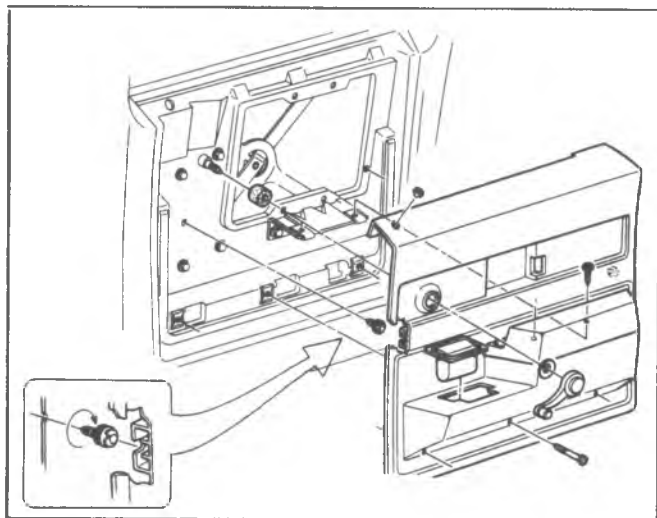

Fig. 38—Side Rear Door Trim Pad
3. Remove screws retaining door trim pad, and remove trim pad. See figure 38.